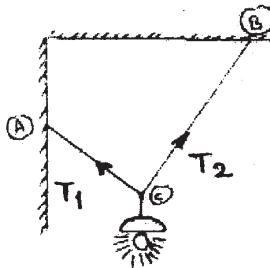

Fig.2.
- Q2)** a) An electric light fixture weighing 15 N hangs from point C, by two strings AC & BC. AC is inclined at  $60^\circ$  to the Horizontal & BC at  $45^\circ$  to the vertical as shown in Fig.2. Using Lami's theorem determine the forces in the strings AC & BC. [7]